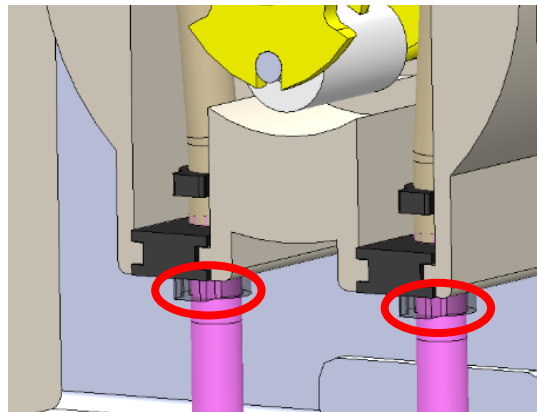

Figure 20
17. Break the zip-ties at the bottom of the pump housing using wire cutting pliers and disconnect the tubing at the bottom. **NOTE:** Take caution not to cut the silicone tubing. See Figure 20.